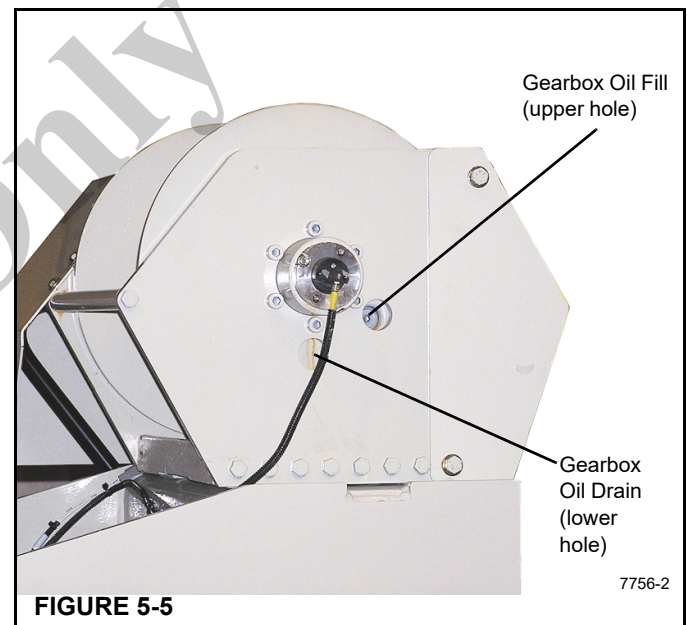

FIGURE 5-5
- Rotate the drum until the oil fill/level plug (Figure 5-5) is visible in the inspection hole.
- To drain and add new oil, remove the vent plug (Figure 5-5) and then screw a 1" pipe into the drain plug hole to allow the oil to drain. Remove the drain plug with a hex head socket and drain hydraulic oil. Remove the 1" drain pipe and install drain plug.
- To fill with oil, rotate the drum so the fill/level port (Figure 5-5) is visible through the upper hole. Install a 1" pipe with elbow into the fill hole to assist in adding oil. Remove fill/level plug with a hex socket and fill gear box with gear lube oil. See "Lubrication" on page 5-3.